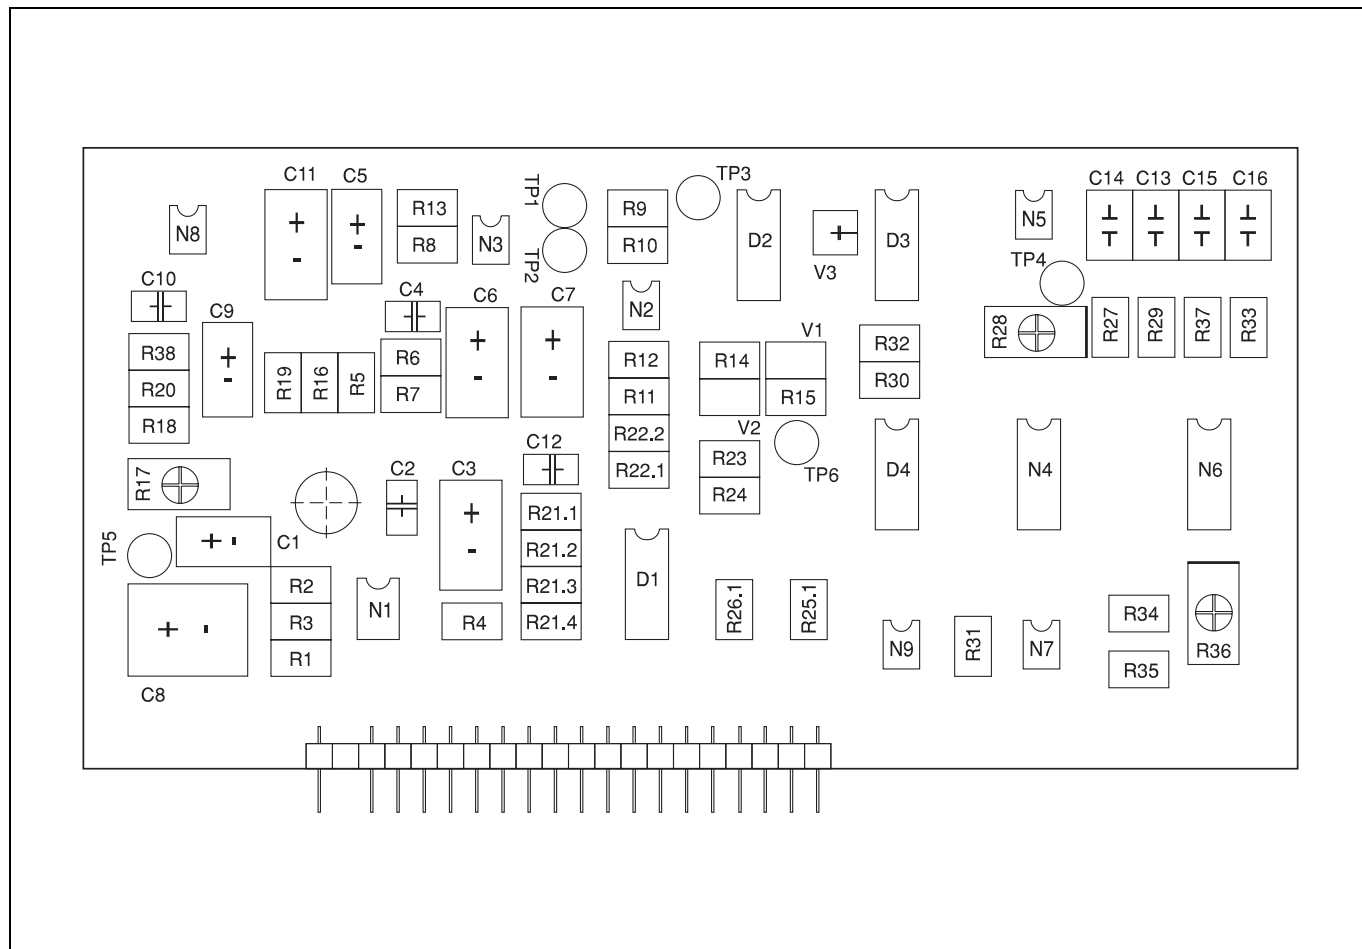

Fig. 39 Pre-amplifier and Integrator Module
- 2) TP5 is located on the preamplifier and integrator module (see Fig. 39). TP101 is located on the analog board.